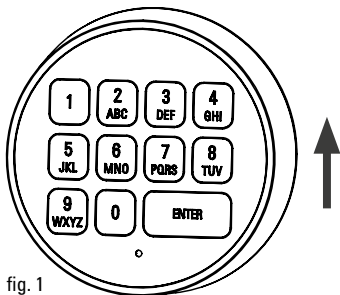

fig. 1
1. Remove keypad from safe or vault door by sliding upward (*Figure 1*).